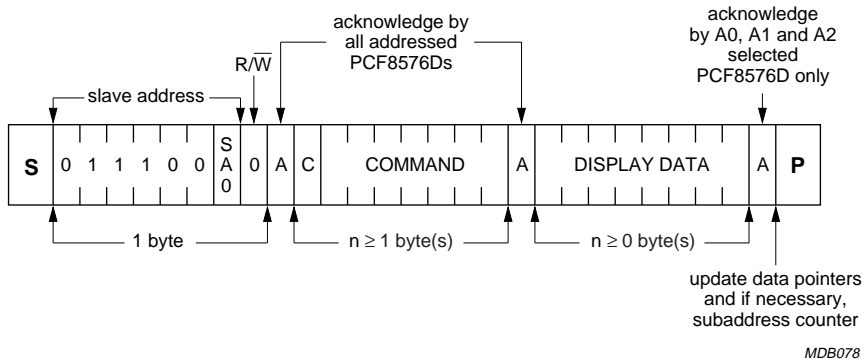

Fig.15 I²C-bus protocol.
The I²C-bus protocol is shown in Fig.15. The sequence is initiated with a START condition (S) from the I²C-bus master which is followed by one of two possible PCF8576D slave addresses available. All PCF8576Ds whose SA0 inputs correspond to bit 0 of the slave address respond by asserting an acknowledge in parallel. This I²C-bus transfer is ignored by all PCF8576Ds whose SA0 inputs are set to the alternative level.